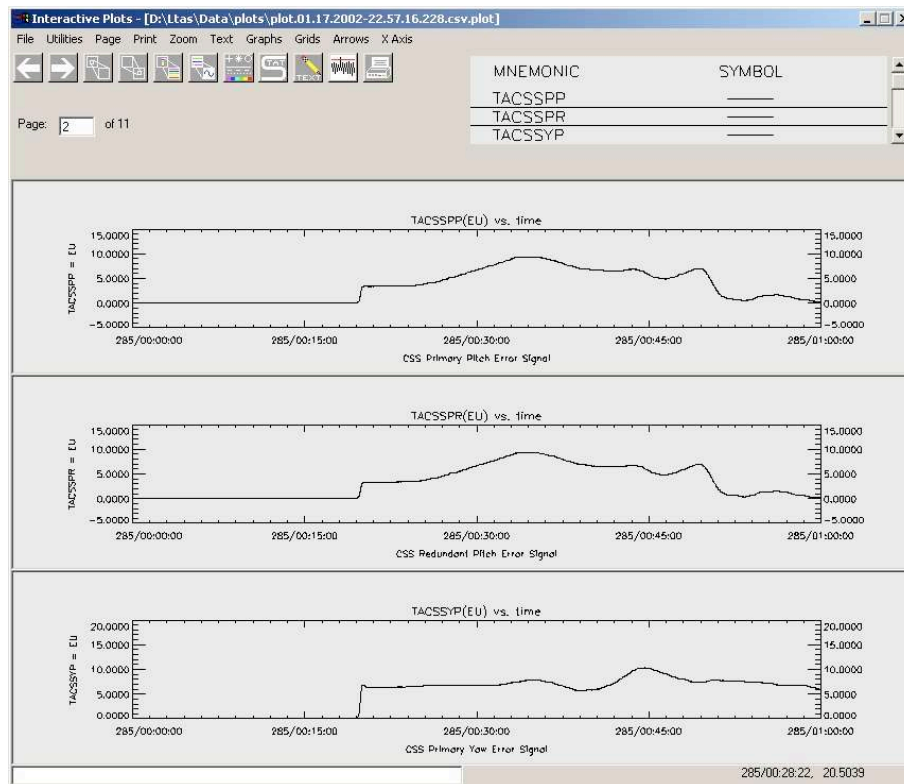

Figure 9: Sample Default Parameter Plot
ITPS plots can be generated quickly using default plot settings. When using default settings, requested mnemonics are drawn on graphs based on the order specified in the selected Input Definition File (see Section 6). The mnemonics are plotted using default plot attributes (see Figure 9 for sample plot using default plotting parameters). Section 3.4.2 describes plotting settings and descriptions.
- Check “View Plot” to automatically view the generated plot file upon completion (see Figure 9 for sample default plot).
- Check the “Include Questionable Quality Data” box to include data that failed Reed-Solomon (RS) or other applicable quality checking (for missions where quality data is available in ITPS telemetry).